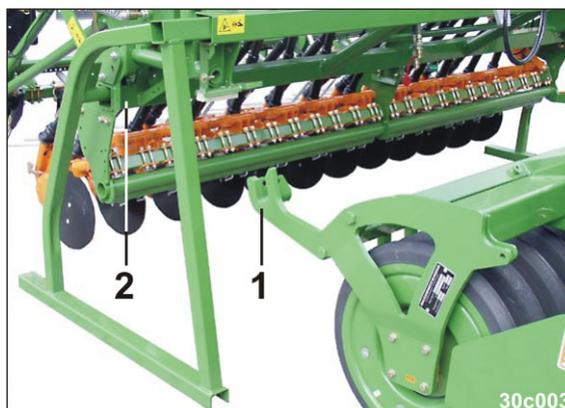

Fig. 109
3. Carefully guide the catching sockets (Fig. 109/1) under the square tube (Fig. 109/2) of the pack top seed drill.